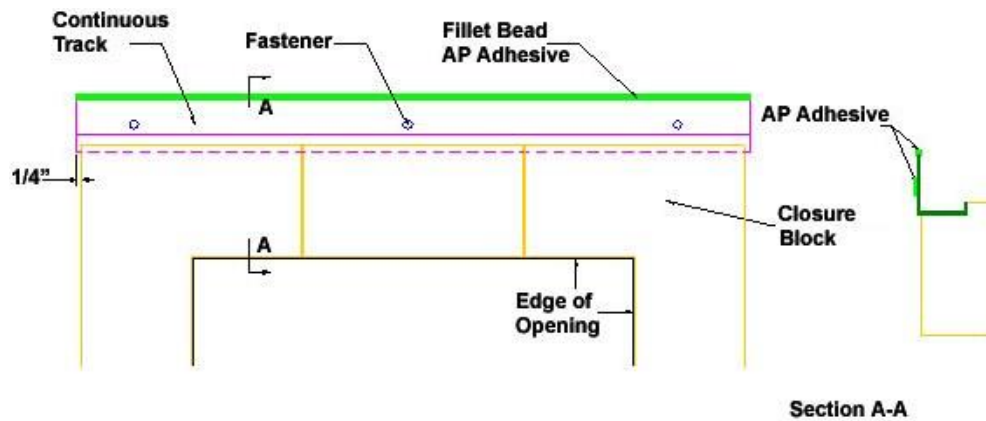

Fig. 16
- i. Cut a piece of Dryvit Track to length so that it extends 1/4 in (6.4 mm) beyond the edge of the Closure Blocks as shown in Figure 16. NOTE: The Dryvit Track must be continuous. Do not splice!